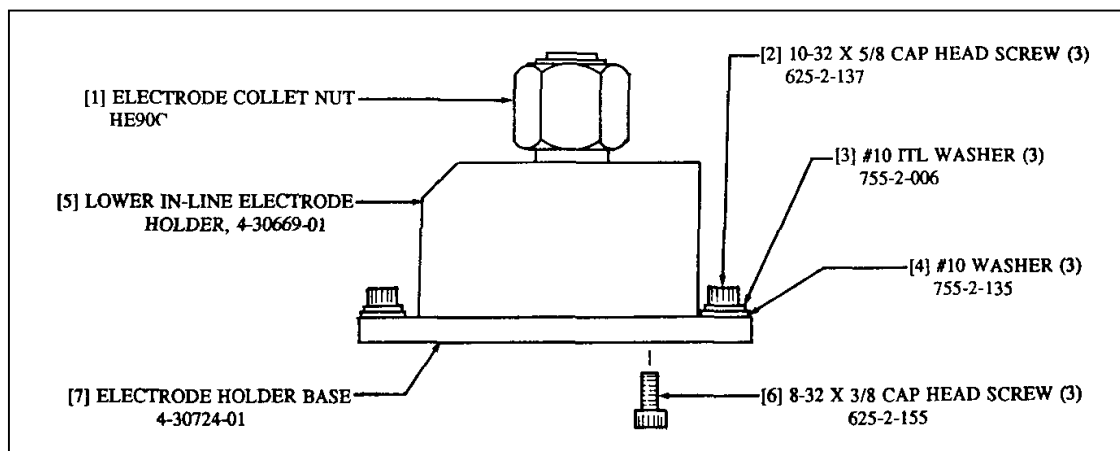

Figure 5-4. Lower Electrode Disassembly
- 1 Reference Figure 5-4. Remove the Lower Electrode from the ELECTRODE COLLET NUT, item [1].